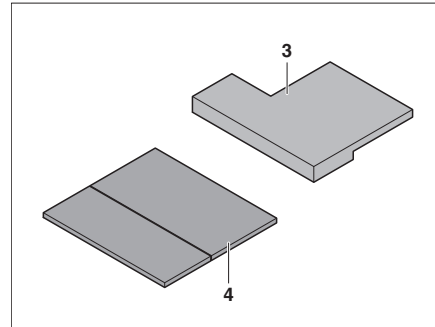

Fig. 193 Additional cushion
- Lay the guest bed foundation (Fig. 193,4) on the table. Lay the front edge of the guest bed foundation directly against the driver's seat.